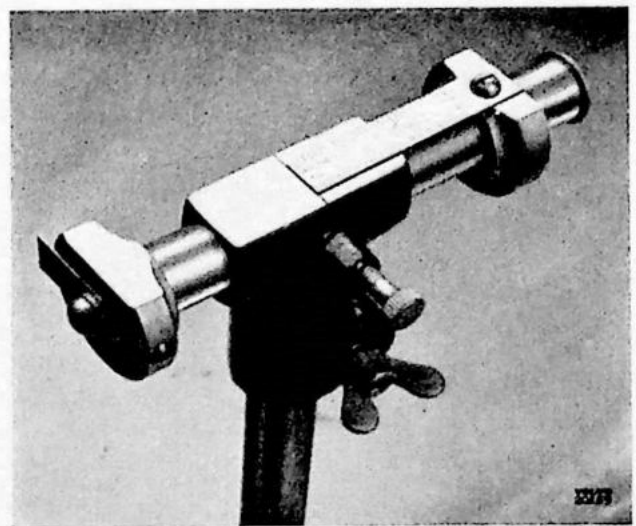

Fig. 39. Zeroing the measuring tool gauge.
4. Zero the measuring tool gauge (fig. 39) and place it behind the wheel. Make sure that the points are at hub level. Place the end